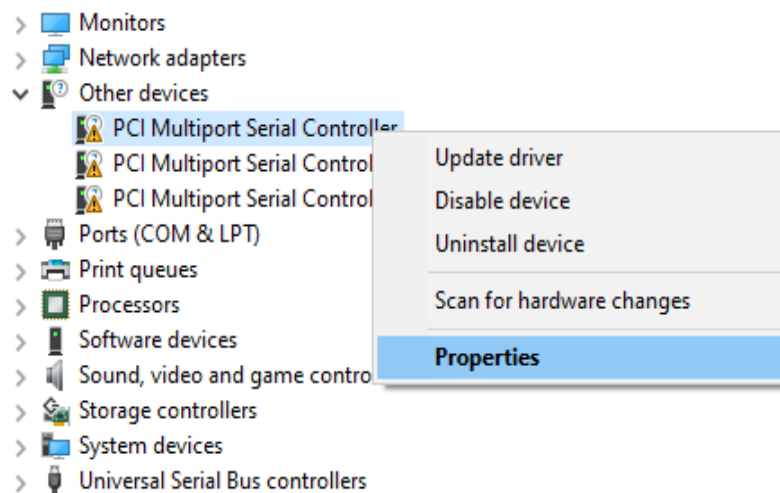

Figure 5.37. Showing Device Properties
2. Right-click on each device and select **Properties** as shown in Figure 5.37.